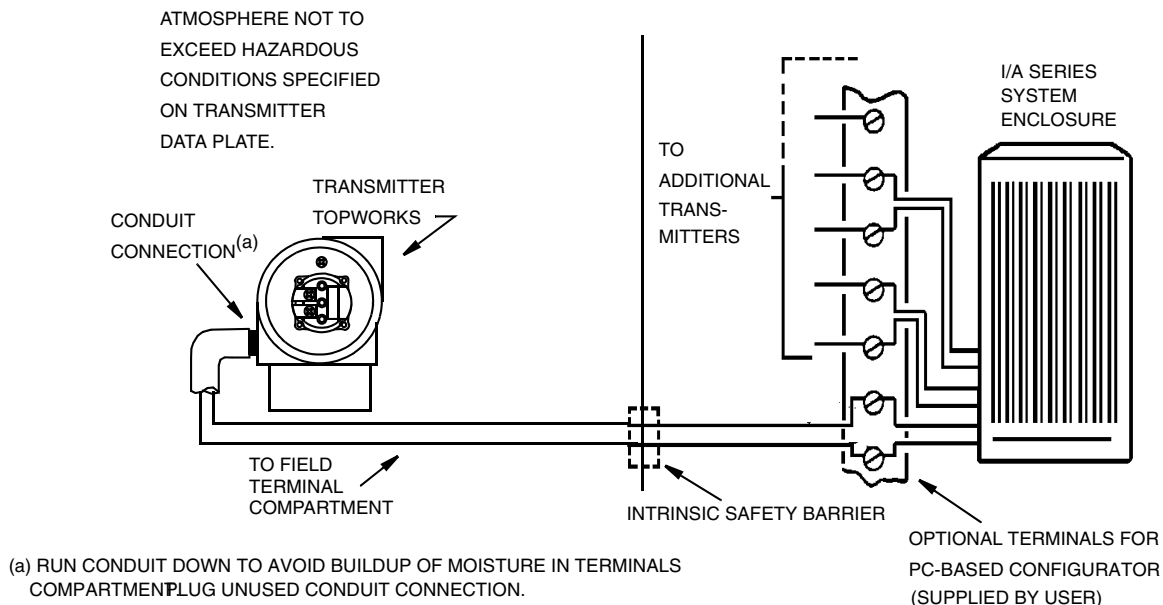

Figure 27. Typical Transmitter Wiring to an I/A Series System
2. Run signal wires (0.50 mm² or 20 AWG, typical) through one of the transmitter conduit connections as shown in Figure 27. Use twisted pair to protect the digital output and/or remote communications from electrical noise. Screened (shielded) cable may be required in some locations.